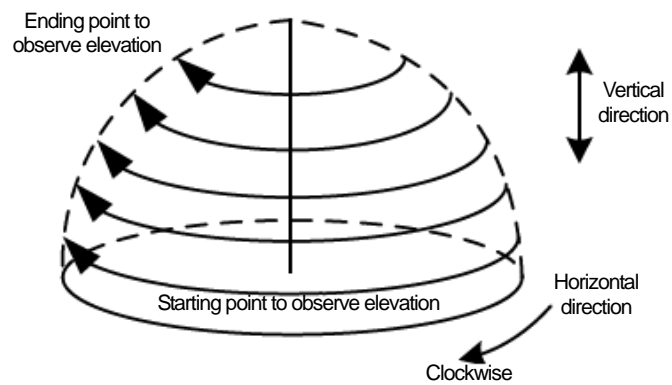

Figure 2. Volume scan mode
- **Volume scan (3D data):** (ref. Fig.2)